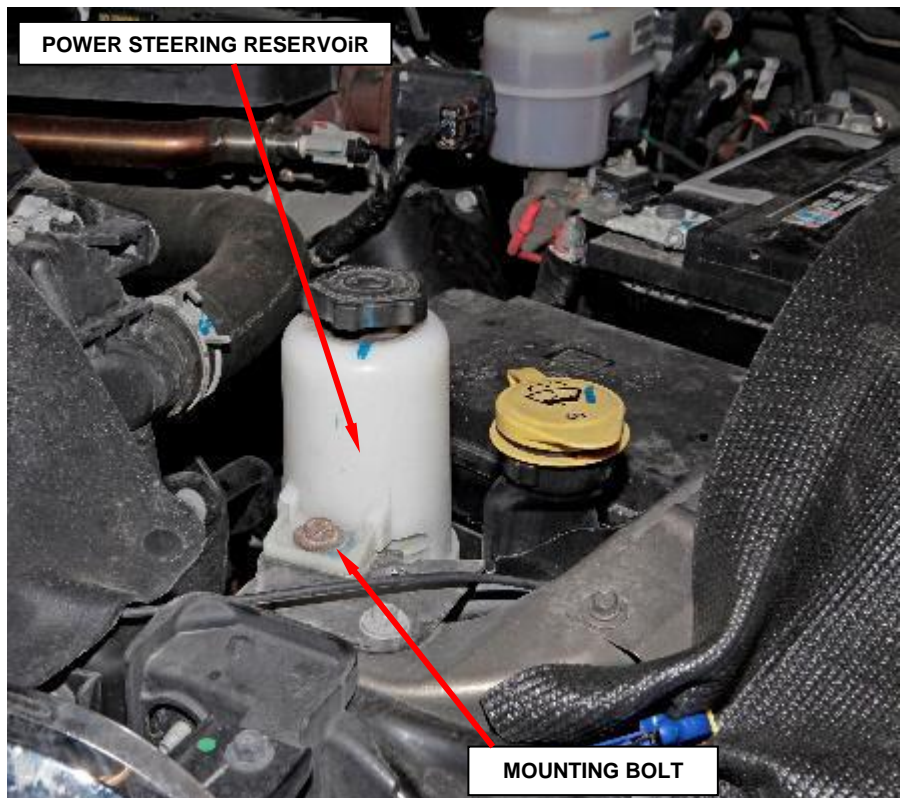

Figure 4 – Power Steering Reservoir
- b. Remove and save the power steering reservoir mounting bolt and position the reservoir to the side (Figure 4).